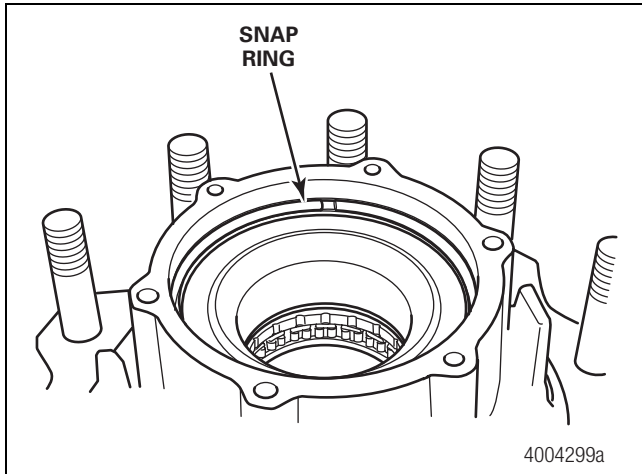

Figure 4.5
- The non-serviceable bearing cartridge is held in place by a heavy-duty snap ring visible from the outboard side of the hub. Figure 4.5.